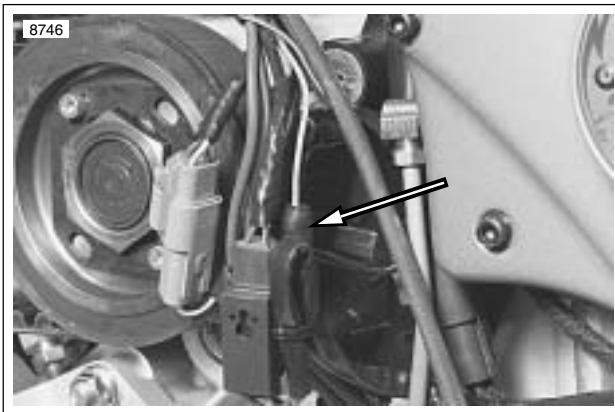

Figure 7-95. Neutral Switch Connector [131]
- See Figure 7-95. Connect neutral switch connector.